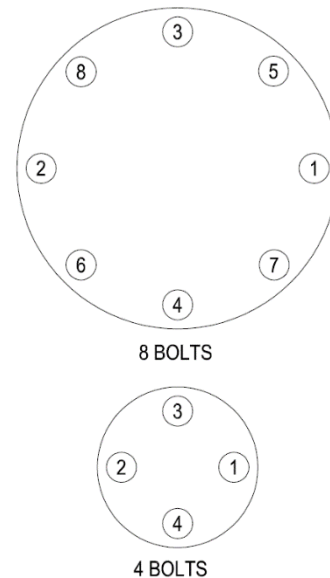

Figure 8 - Bolt Tightening Sequence
- Using the crisscross pattern shown in Figure 8, apply torque in 4 steps of 25% increments. For example, if the torque required from Appendix A is 100 ft-lb, the torque should be applied in 25 ft-lb increments. Apply 25 ft-lb to each nut, then 50 ft-lb, then 75 ft-lb, etc. For larger quantities of bolts than shown below, use a similar crisscross pattern.